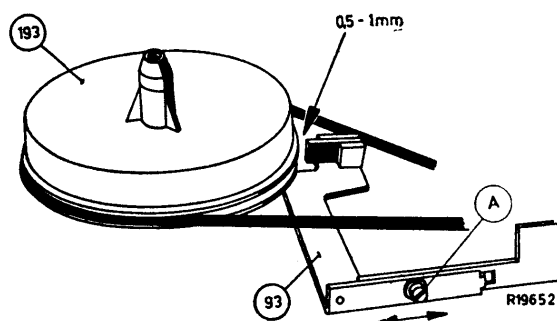

FIG. 12
- (a) Left-hand. With the "re-wind" button depressed, the brake block on the left-hand brake bracket 93 should be 0.5 to 1 mm. from the turntable 193. This can be adjusted by slackening the locking screw "A" and moving the bracket (see Fig. 12).